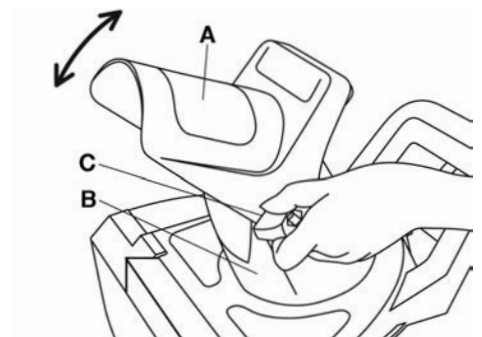

FIGURE 22
2. The chute deflector (A) Fig.22 on the top of the discharge chute (B) controls the height of the snow stream. Loosen both chute deflector knobs (C) to raise or lower the deflector to the desired height you wish to throw the snow. Tighten the knobs to secure the deflector.